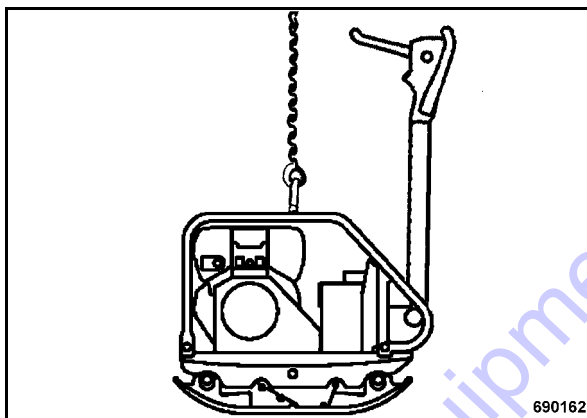

Fig. 38
- Always attach the lifting tackle to the lifting eye to load the vibratory plate (Fig. 38) on a transport vehicle.